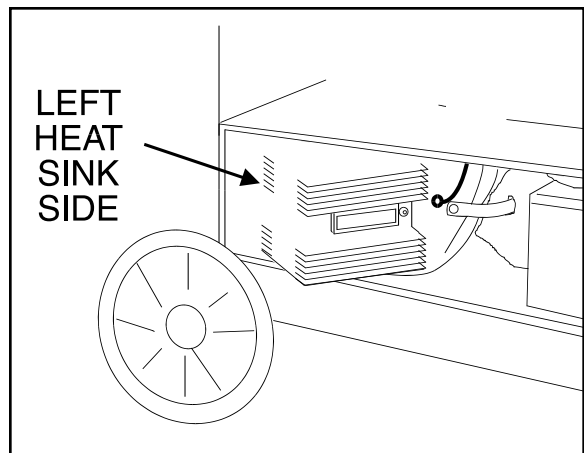

FIGURE F.14 - Heat Sink Lead Disconnection
6. Pivot the SCR Assembly counter-clockwise to provide access to the right side heat sink. See Figure F.14.